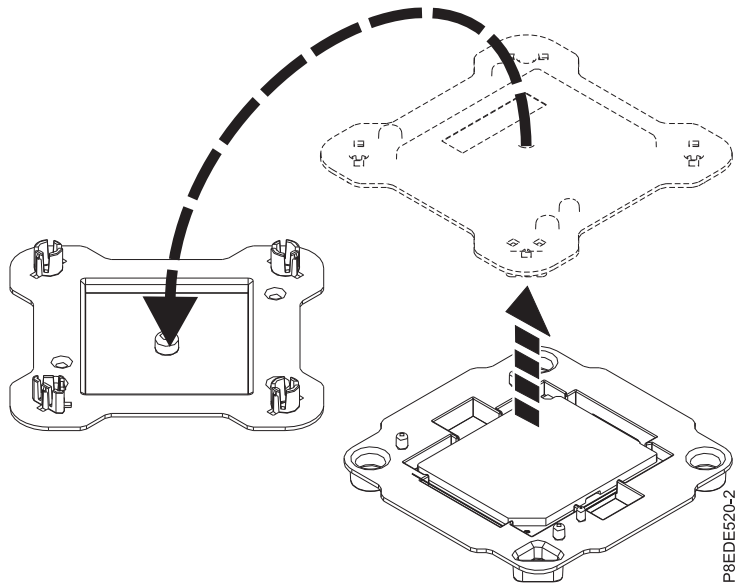

Figure 2. Opening the system processor module packaging
3. Open the packaging of the new system processor module, and place the cover upside down next to the tray, as shown in Figure 2 on page 5. The cover is used for the system processor module that you are replacing.